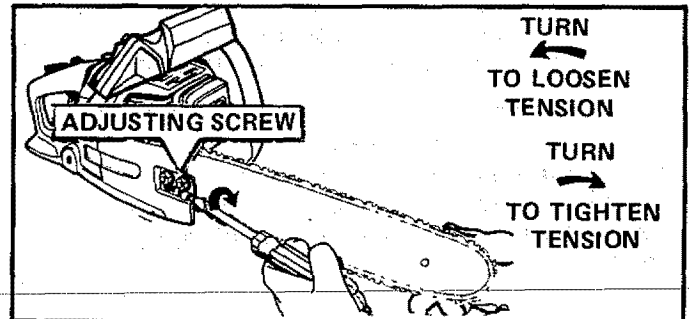

Figure 9
1. Hold the tip of the Guide Bar up and turn the Adjusting Screw just until the chain does not sag beneath the Guide Bar. Figure 9.